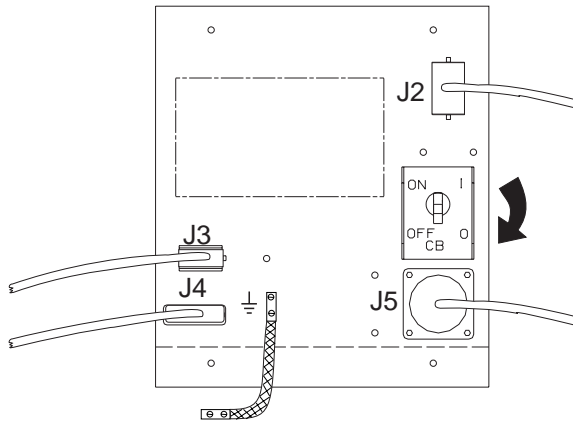

Figure 4-10. DC Power
2. \_\_\_\_ Ensure that the customer's branch circuit breaker which feeds the power supply is in the **OFF position**, and that CB is switched to **OFF** at the rear of the 2220 DC power supply (see Figure 4-10).